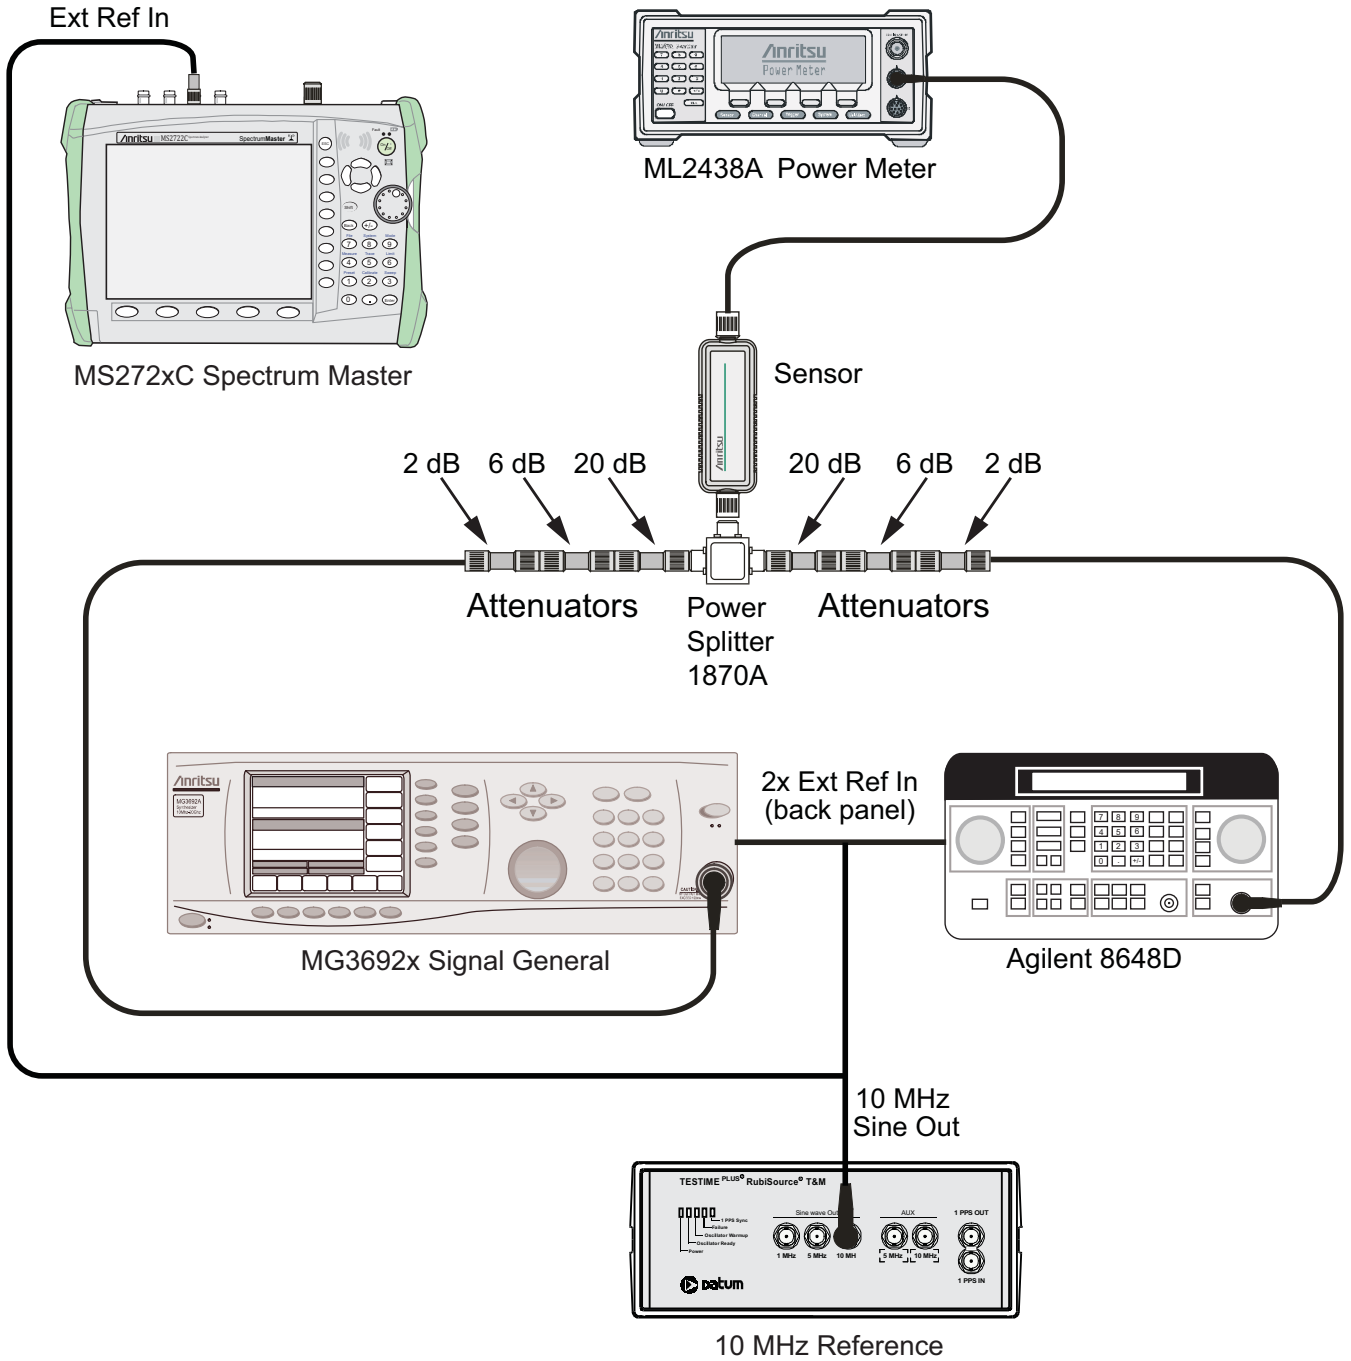
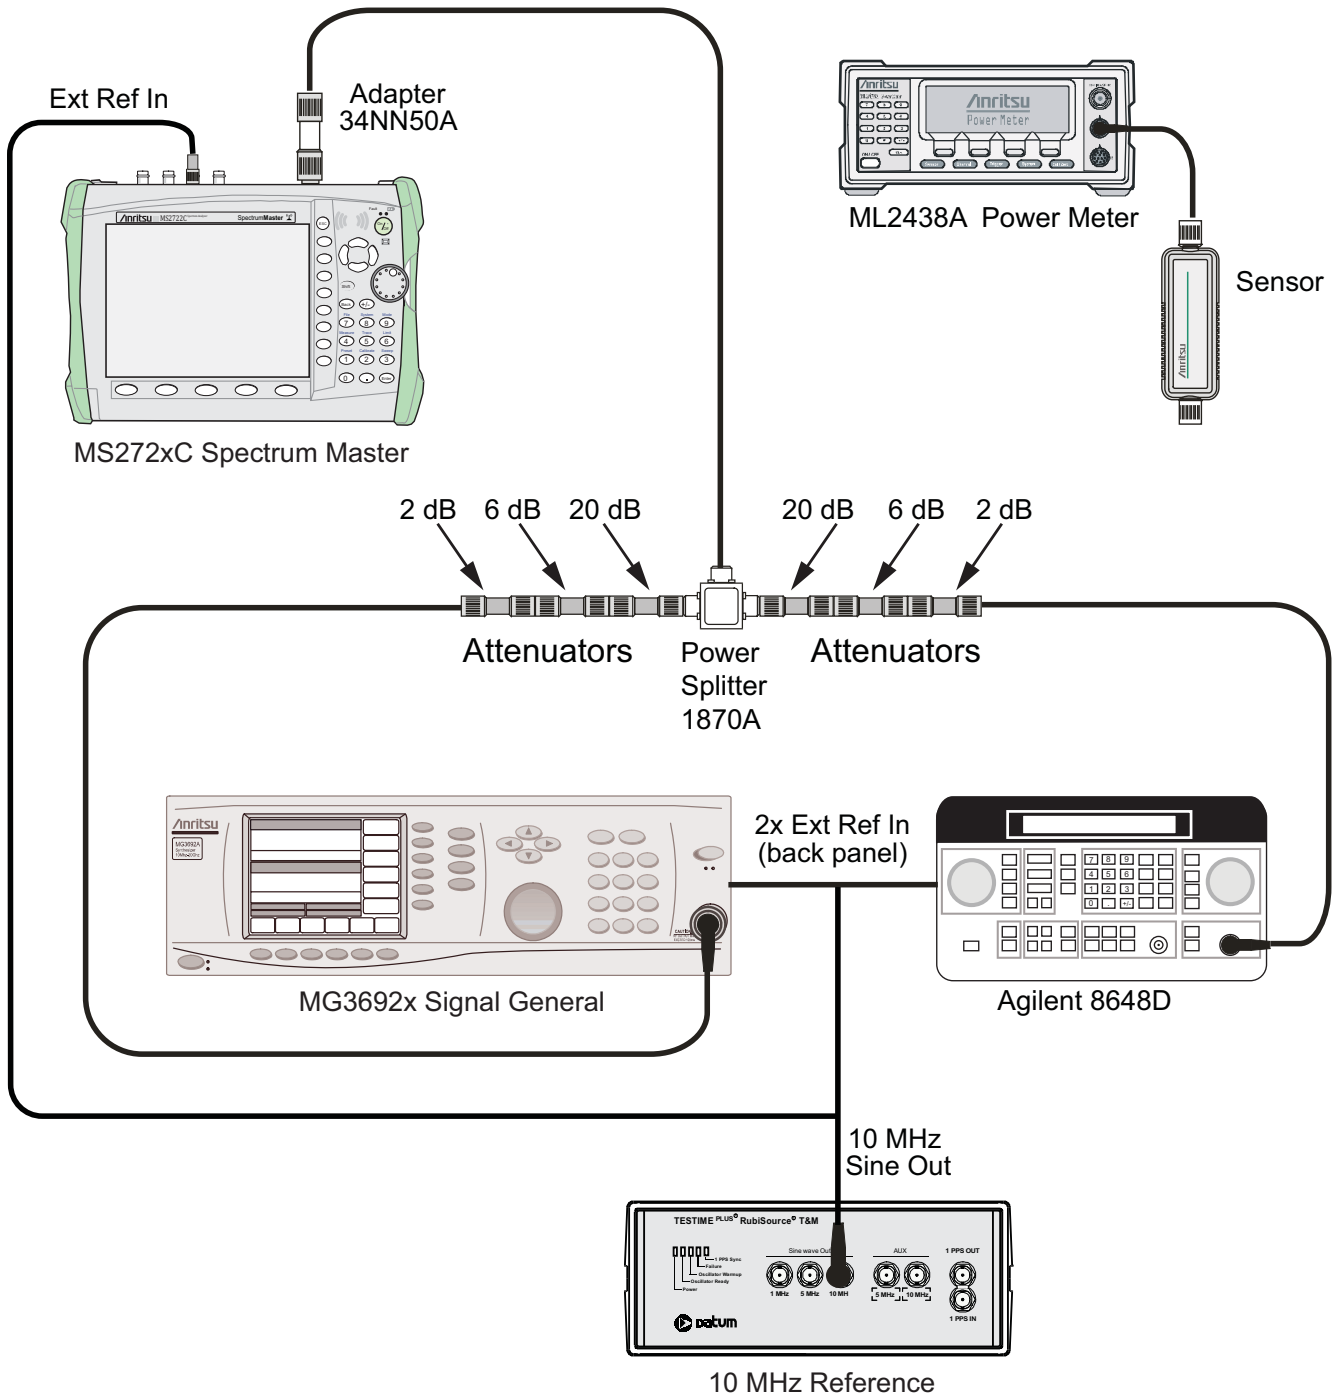

Figure 2-5. 2400 MHz TOI Verification Characterization, Component Characterization Setup
Figure 2-6. 2400 MHz TOI Verification, Test Setup
1. Connect the equipment as shown in Figure 2-5. The splitter will be used as an RF combiner (the normal RF outputs will become inputs, and the normal input will become the RF output).
8. Set the MS272xC to Spectrum Analyzer mode and then Preset the instrument. Press the **Shift** key, the **Sweep** (3) key, Sweep Mode submenu key and then the Performance submenu key.
10. Press the **Shift** key and the **Sweep** (3) key. Press Detection, and press RMS (a red dot appears on the label).
11. Disconnect the power sensor from the output of the splitter and connect the splitter output to the MS272xC Spectrum Analyzer RF In connector through the Anritsu Model 34NN50A or 71693-R adapter (Figure 2-6 on page 2-25).
13. Press the **Shift** key and then the **Trace** (5) key. Press Trace A Operations, and set # of Averages to 2.